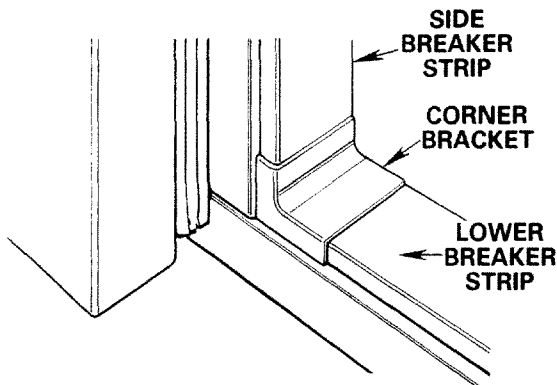

Figure 6 - Corner Bracket Location
10. Remove the corner brackets shown in Figure 6. The corner brackets have plastic retaining tabs engaged in the case flange and the breaker channel. **Discard** these corner brackets and use the new ones provided. **Remove any RTV, plastic chips, foam, or any debris** from the breaker channels.